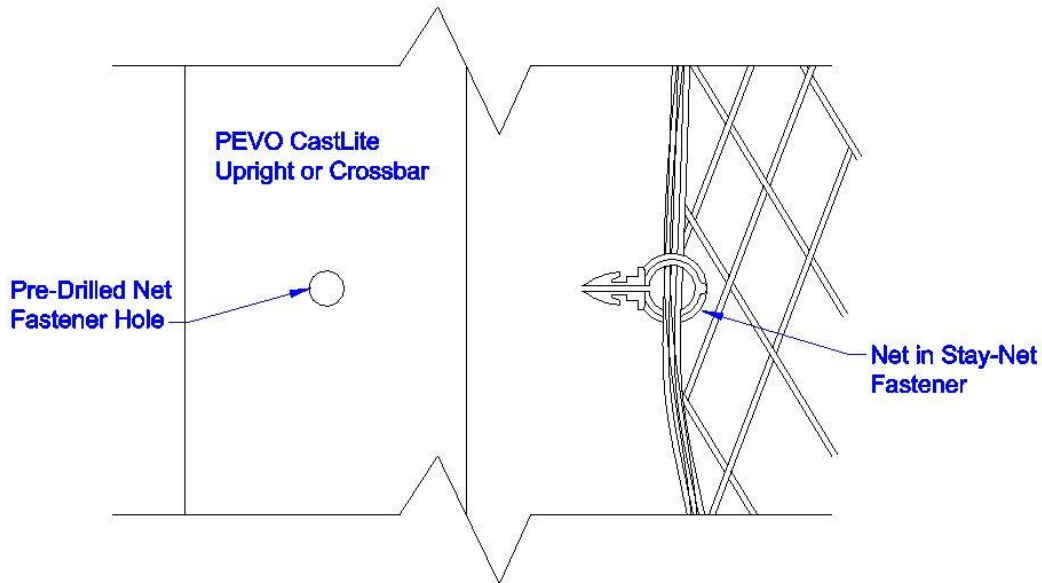

Figure 4. Stay-Net Fastener and Perimeter Rope.
12. Slide Net perimeter rope into Net Fastener and push Net Fastener into frame hole. Continue until Crossbar and Uprights are completely attached to Net with Stay-Net Fastener. (See Figure 4)